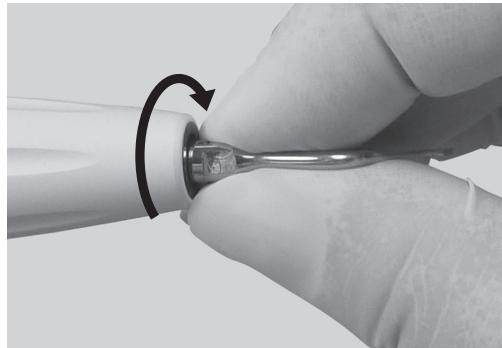

Fig. 15
- 1) First, lightly screw in the Tip by hand. (Fig. 15)